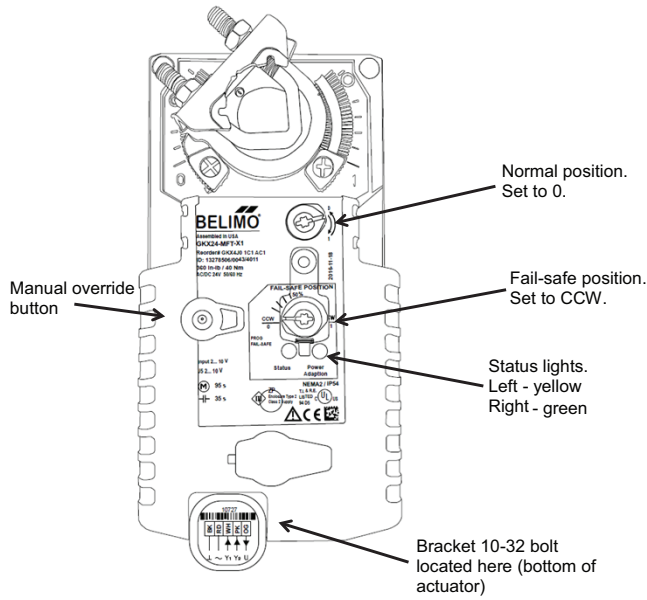

Fig. 55 — Actuator Settings, 30MP051-080 Head Pressure Control and Evaporator Isolation
All actuators are 5-wire, 2-10vdc control, reverse acting, electronic fail-safe. The actuator is pre-programmed for the unit and should not require field programming. The red and black wires are used to power the actuator. The signal connection is made at the actuator white wire. The orange and pink wires are not used. The default settings on the actuator are normally open and fail open. The normal position dial should be set to 0 (Fig. 55), which will ensure the actuator will move to the full counterclockwise position. The fail-safe position dial should be set to counterclockwise. The actuator should be in the fully counterclockwise position prior to installation. If necessary, press and hold the manual override button while turning the actuator to the full counterclockwise position prior to installing the actuator on the water valve.
For isolation during heat exchanger service, turn the fail-safe position dial fully clockwise (CW), see Fig. 55. and remove power to the actuator. This will hold the water valve in the fully closed position. Do not return power to the actuator until service is complete. Each actuator includes a manual override button. Pressing this button will release the actuator drive gear. With the manual override button held down, the water valve shaft can be rotated manually. Upon releasing the manual override button, the actuator will return to the fail-safe position. The manual override is not recommended for heat exchanger isolation, as the manual override does not lock in the actuator in position.
a. Refer to Fig. 55 for location of indicator lights.